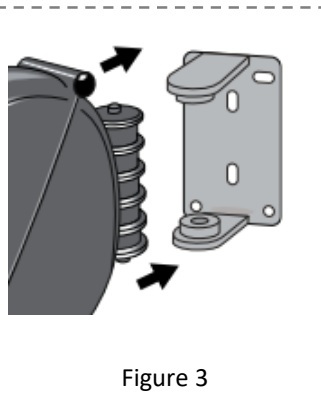

Figure 3
5. Snap the dispenser into the mounting bracket (Figure 3)
3. Snap the dispenser into the mounting bracket (Figure 3)